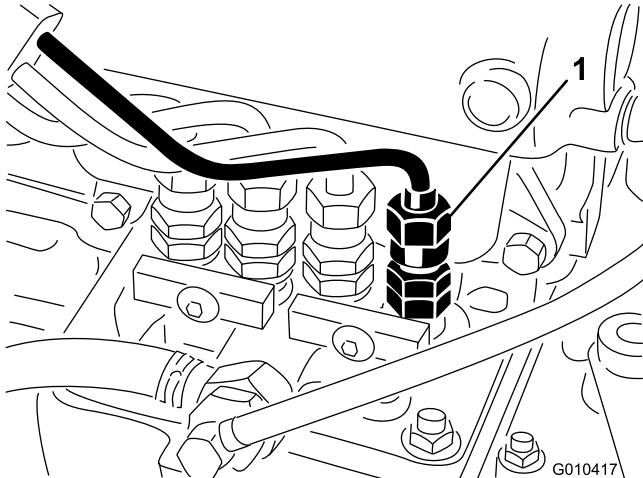

Figure 62
1. Loosen the pipe connection to the No. 1 injector nozzle and holder assembly at the injection pump (Figure 62).